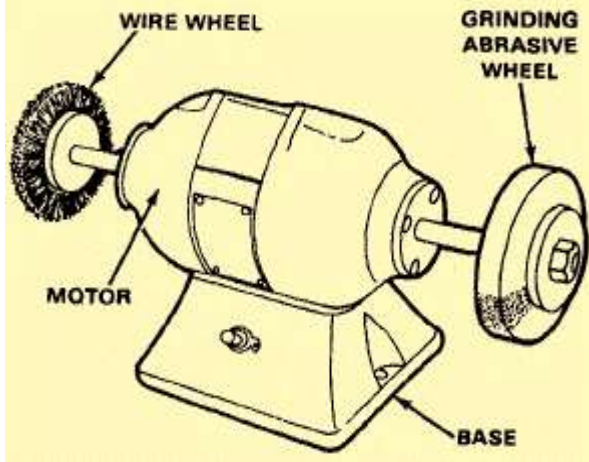

Figure 5-3. Bench-type utility grinding and buffing machine.
**Bench-Type Utility Grinding and Buffing Machine:** The bench-type utility grinding and buffing machine is more suitable for miscellaneous grinding, cleaning, and buffing, but not recommended for tool grinding since it contains no tool rests, eye shields, or wheel guards. This machine normally mounts a 4 inch-diameter wire wheel on one end. The wire wheel is used for cleaning and the abrasive wheel is used for general grinding. One of the two wheels can be removed and a buffing wheel mounted in its place for buffing and polishing. The 1/4-HP electric motor revolves at a maximum of 3,450 RPM. The maximum cutting speed of the 4-inch-diameter wheel is approximately 3,600 SFPM. (Figure 5-3).